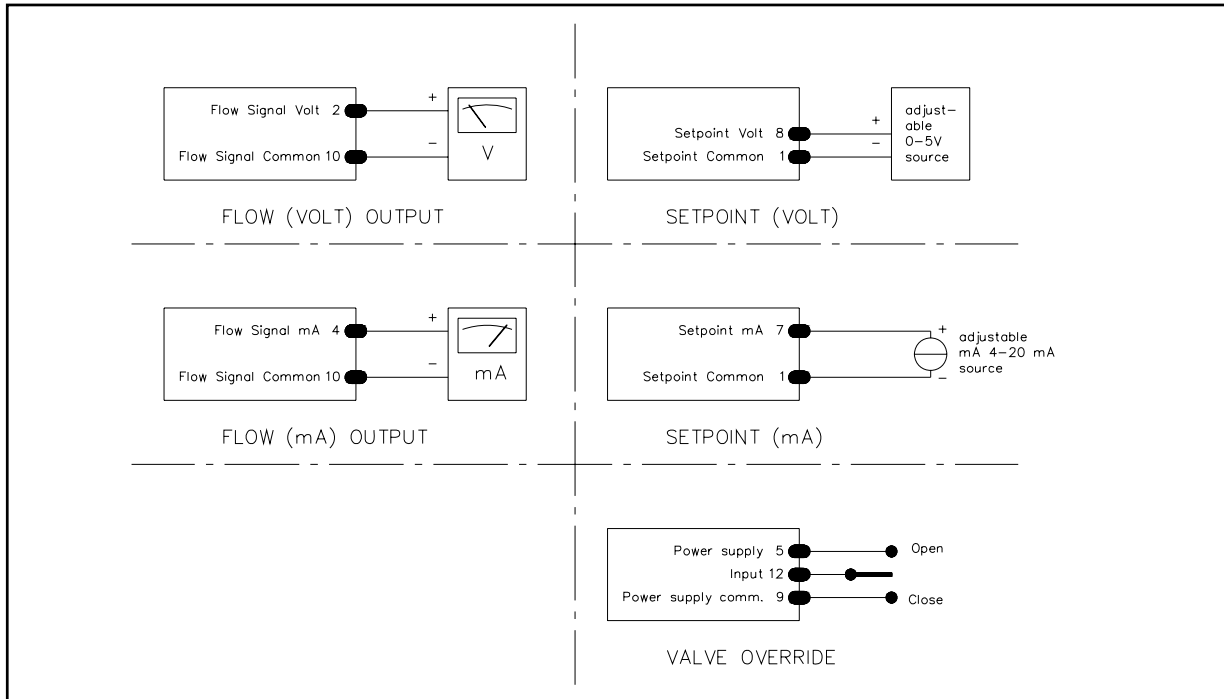

Figure 2-1 5850TR Hook-up Diagrams 15 Pins Sub "D"-Connector
(Refer to figures 2-1, 2-2 and 2-3)
This input allows the user to establish a controlled flow rate. The 5850TR supports two types of I/O control signals; 0-5 Vdc and (0) 4-20 mA. Refer to Figure 2-1 for the I/O signal wiring diagram.
Refer to figures 2-1:
(refer to figures 2-1 to 2-5 customer hook-up diagram)